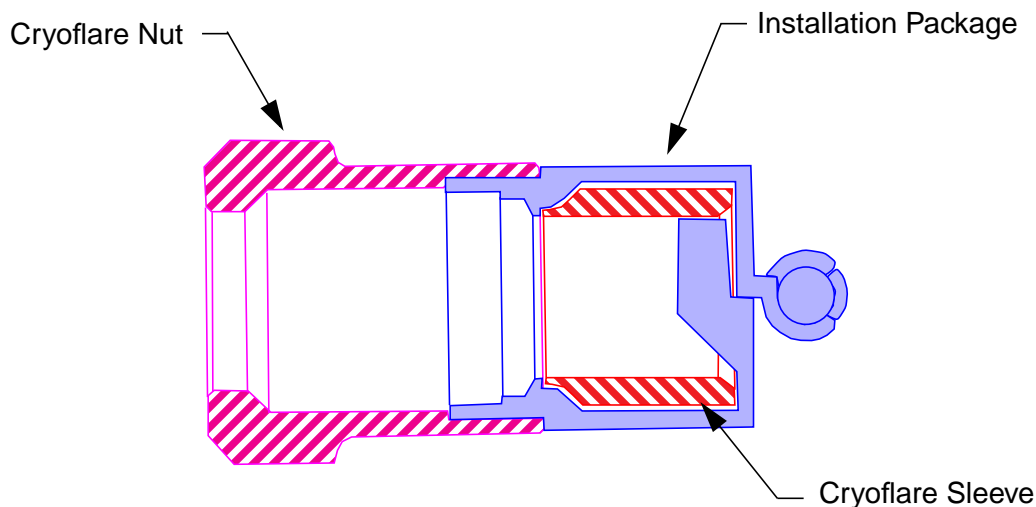
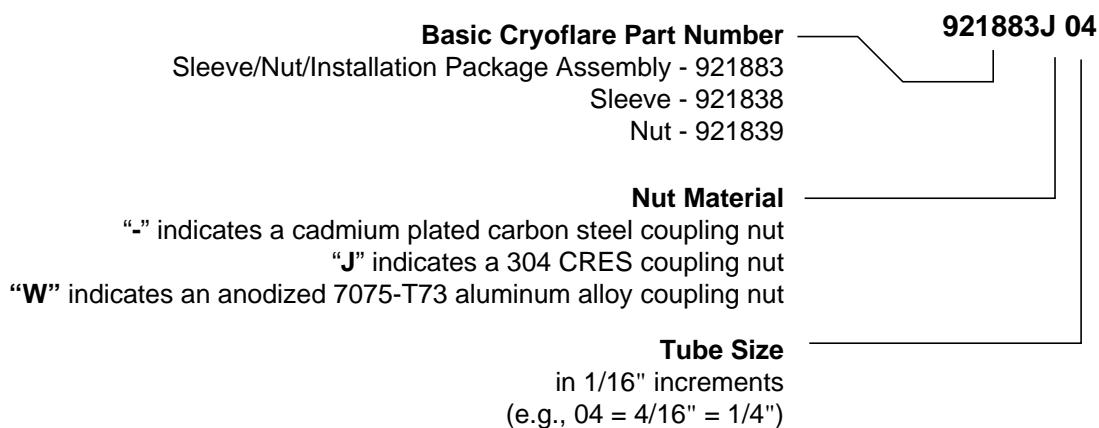

Figure 1 - Cryoflare Sleeve/Nut with Fitted Installation Package
Figure 2 - Cryoflare Part Number Breakdown
- 4.1.1 Cryoflare sleeves/nuts as specified by the engineering drawing (see Figure 1). Refer to Figure 2 for a part number breakdown. The sleeves are supplied as an assembly consisting of the sleeve, the nut and an installation package; the installation package is a